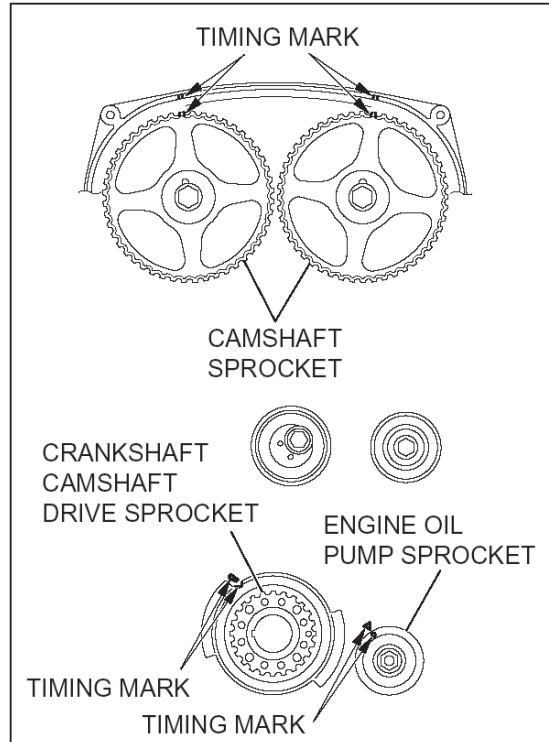

Figure 2A
- (a) Rotate the crankshaft so that the number 1 piston is at TDC on compression. Verify that the camshafts are in proper timing for this position. Fig 2A.